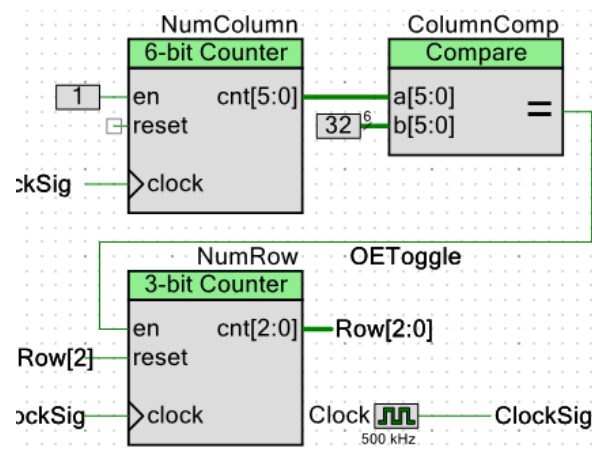

Figure 4: Counters to keep track of Columns and Rows
32. That makes it so it would iterate through the columns and would increment the rows once it's done with one column. (Figure 4)